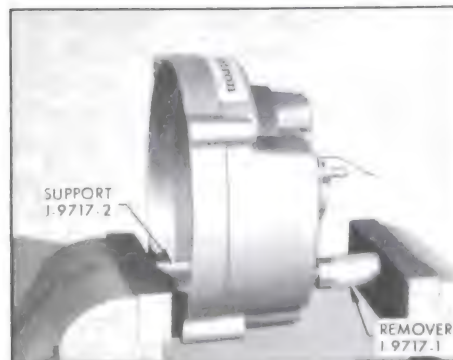

Figure 10-12—Removing a Diode
1. To remove a diode, place slip ring end frame in a vise so that Remover J-9717-1 bears against defective diode and Support J-9717-2 supports casting. Tighten vise to remove defective diode. See Figure 10-12.